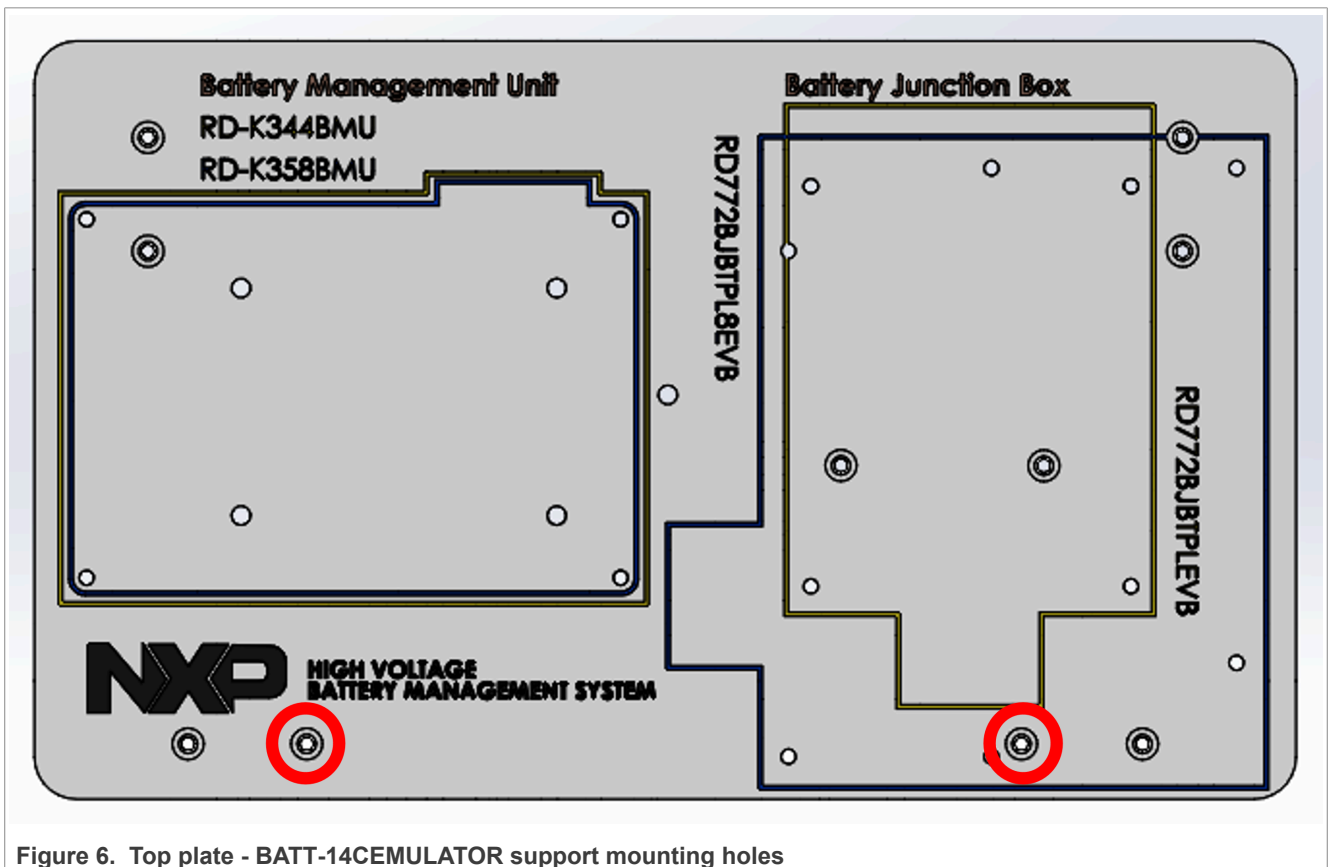
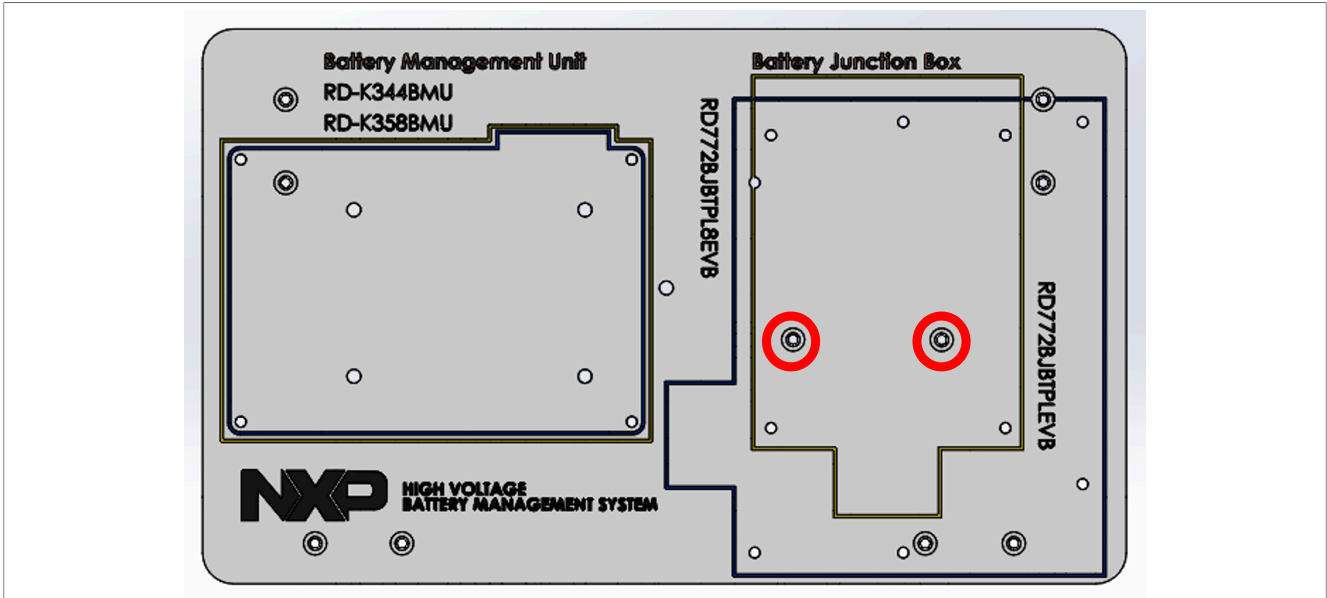
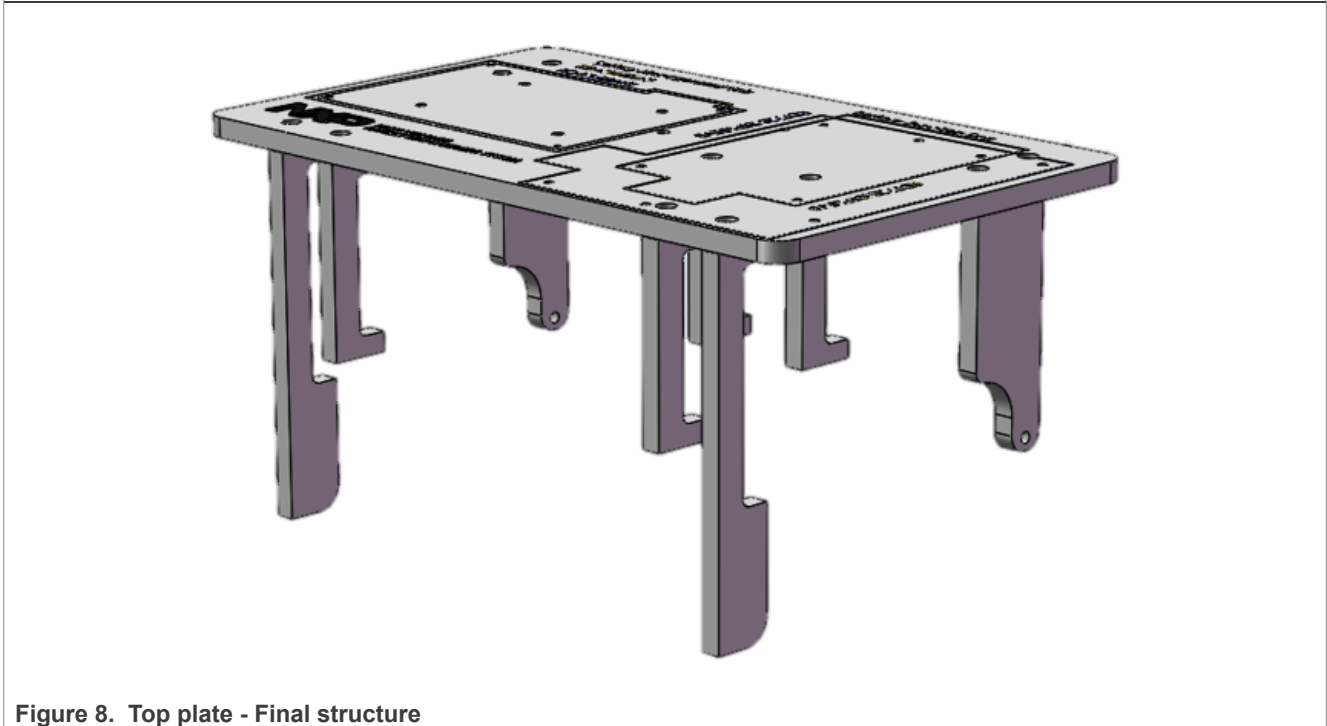

Figure 6. Top plate - BATT-14CEMULATOR support mounting holes
Figure 7. Top plate - BATT-14EXTENDER support mounting holes
Figure 8. Top plate - Final structure
1. Mount both 78mm side parts (800-76231) using two screws (280-78013) according to Figure 6 and Figure 8.
2. Mount both 60mm side parts (800-76230) using two screws (280-78013) according to Figure 7 and Figure 8.